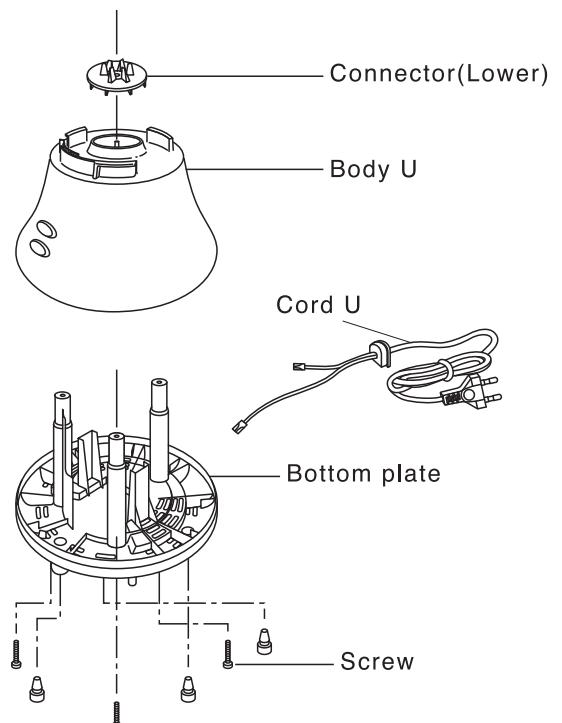

Fig. 4
5.3. Bottom plate, Body U and Cord U - Fig. 4